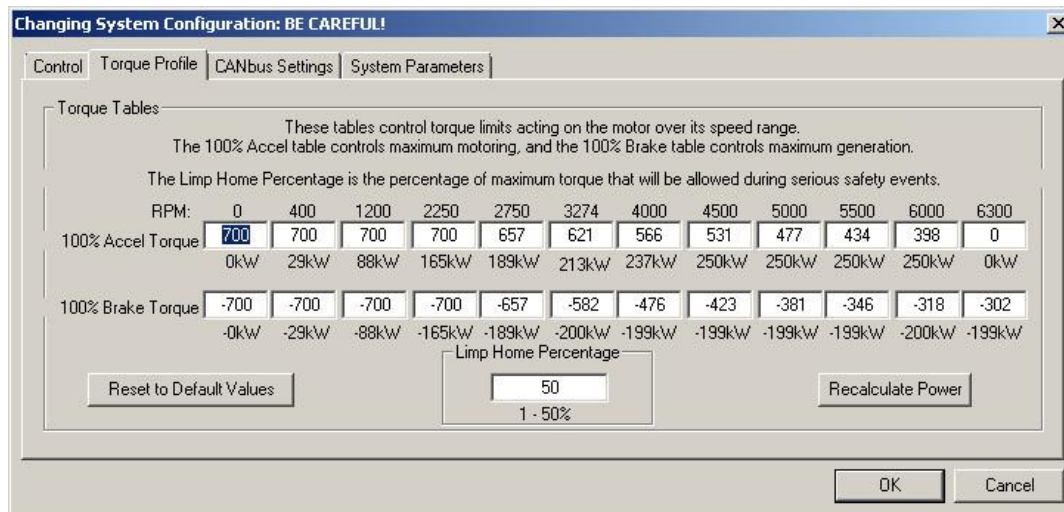

Figure 7.14: Torque Profile Tab
The torque profile tab, shown in Figure 7.14, controls the torque limits acting on the motor over its speed range. The 100% Acceleration Table controls the maximum motoring that the motor can do. The 100% Brake Table controls the maximum regeneration the motor can do.
- **Limited Speed of a Drive Train Component:** If a drive train component has a critical speed limit, then the maximum motoring torque can be reduced to 0 Nm before the critical speed. In the system illustrated in Figure 7.14, if the drive train component were limited to 4000 rpm, then all values above this speed on the 100% Acceleration Table would be set to 0 Nm.
E.g.: for the displayed system (Figure 7.14) the torque limits are +700 to -700 Nm from 0 to 2250 rpm and decrease to 398 to -318 Nm at 6000 rpm. If the system is in the **Limp Home** mode and the **Limp Home Percentage** is set to 50, those limit will decrease to +350 to -350 Nm from 0 to 2250 rpm and 199 to -159 Nm at 6000 rpm with proportional decreases in the values between 2250 and 6000 rpm.